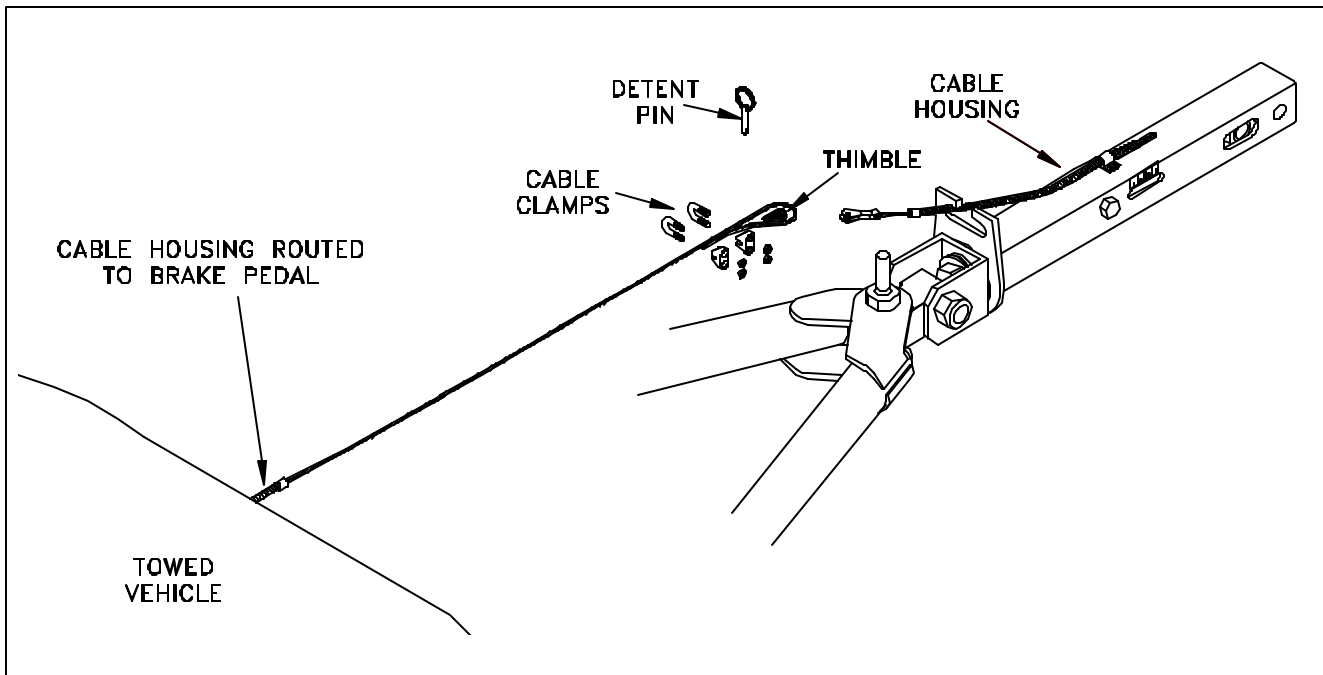

Figure 6
- Attach the cable thimble into the cable fork on the AutoStop receiver cable assembly with the detent pin. (Figure 6) Run the loose end of the brake cable through the fork and thimble, double it back on itself and secure it with the two cable clamps. Place the first clamp as close as possible to the thimble and the second cable clamp about four (4) inches from the first. Before tightening the clamps adjust the cable length so there is about four (4) inches of vertical play in the cable before the towed vehicle's braking lights come on.